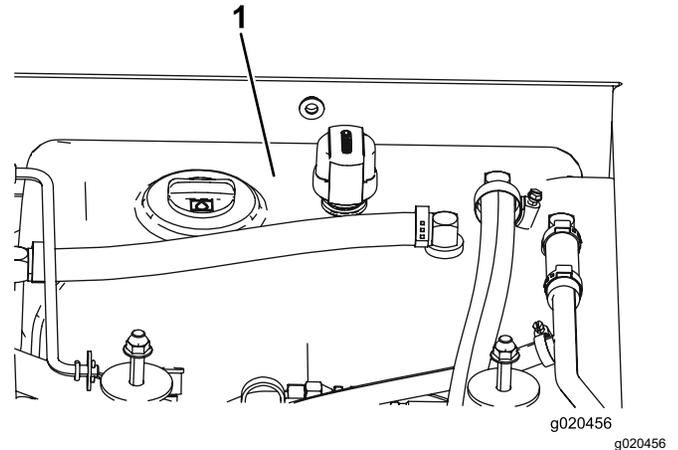

Figure 86
4. Fill the reservoir (Figure 86) with hydraulic fluid; refer to Servicing the Hydraulic System (page 73).